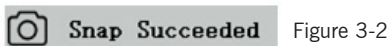

Figure 3-2
- The display shows "Snap Succeeded", which means that the photo has been successfully taken. This is shown in Figure 3-2.